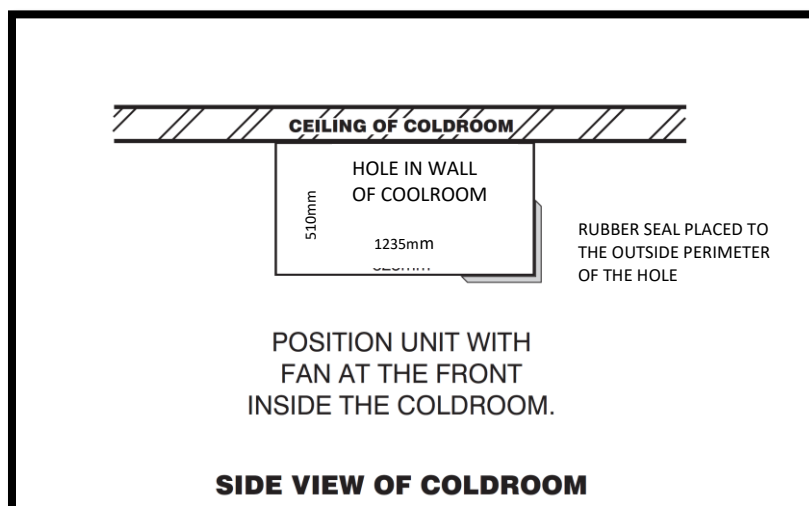

Fig 1.
4. Insert the unit through the hole from outside, and bolt in place, then fasten rear of evaporator cooler to internal roof of coolroom with bolts or screws, see fig 1.